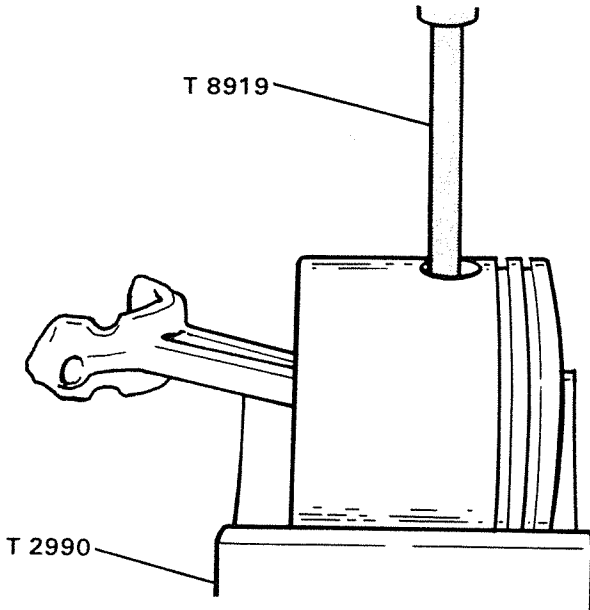

Figure 14. Removing Piston Pin.
- C. Remove rod from piston by driving out piston pin using a small punch in opened end of pin, tapping lightly while supporting piston with hand or pillow block. Figure 14.